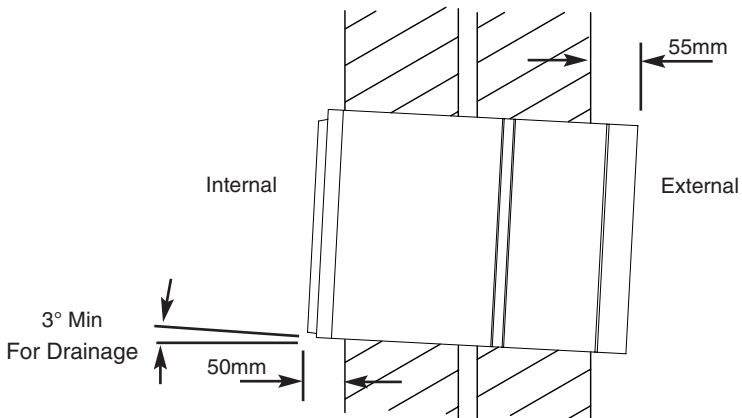

Fig. 6
2. The HR300 requires an overhang internal and external (Fig. 6):